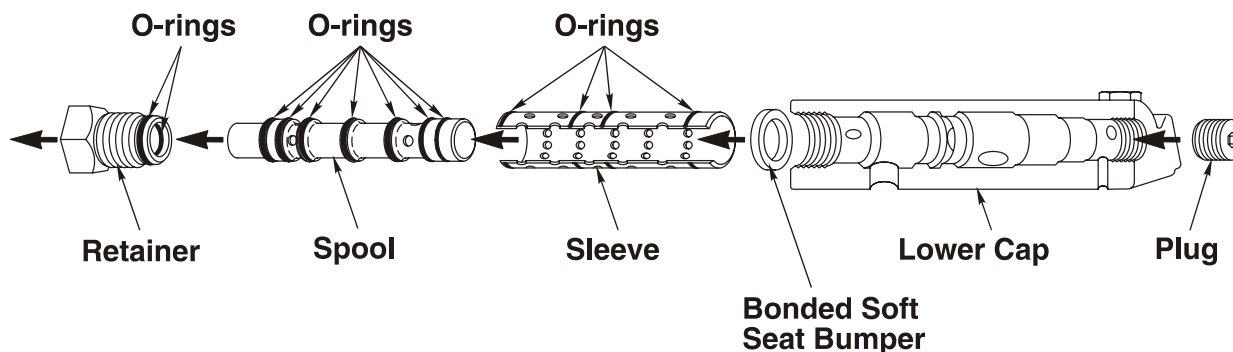

FIGURE 4
1. **Pump will not cycle and air exhausts continuously from muffler (see fig. 4).**